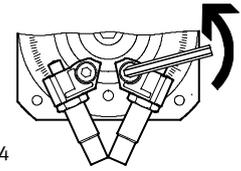

Fig. 14
- Unscrew the locking screws for the shock absorber retainers (Fig. 14). To shift the shock absorber retainers, it is sufficient to slacken the locking screws until they can just barely be shifted.